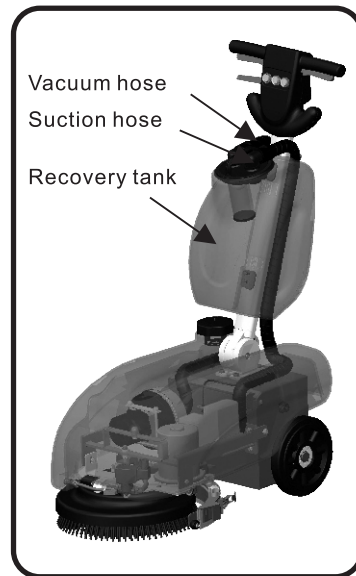

fig.7
- ③ After this, connect the vacuum hose and the suction hose with the connectors on the recovery tank lid. (fig.7)